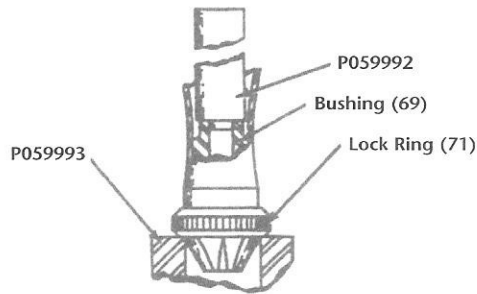

Fig 14
When disassembling tool, use a 3/32" pin punch to remove roll pin (34). Support tool firmly on a suitable surface and drive pin out carefully to avoid damage to cylinder (65) or inlet (32). Take precautions to avoid losing roll pin. When removing sleeve valve (14) align mark on sleeve with "OFF" on inlet (32) to avoid cutting "O" ring (7). To remove accessory bushing (69) support lock ring (71) on bore of P059993 Holder and press bushing out of cylinder sleeve (60) from interior of sleeve with P059992 Drift. See illustration (Fig. 14).